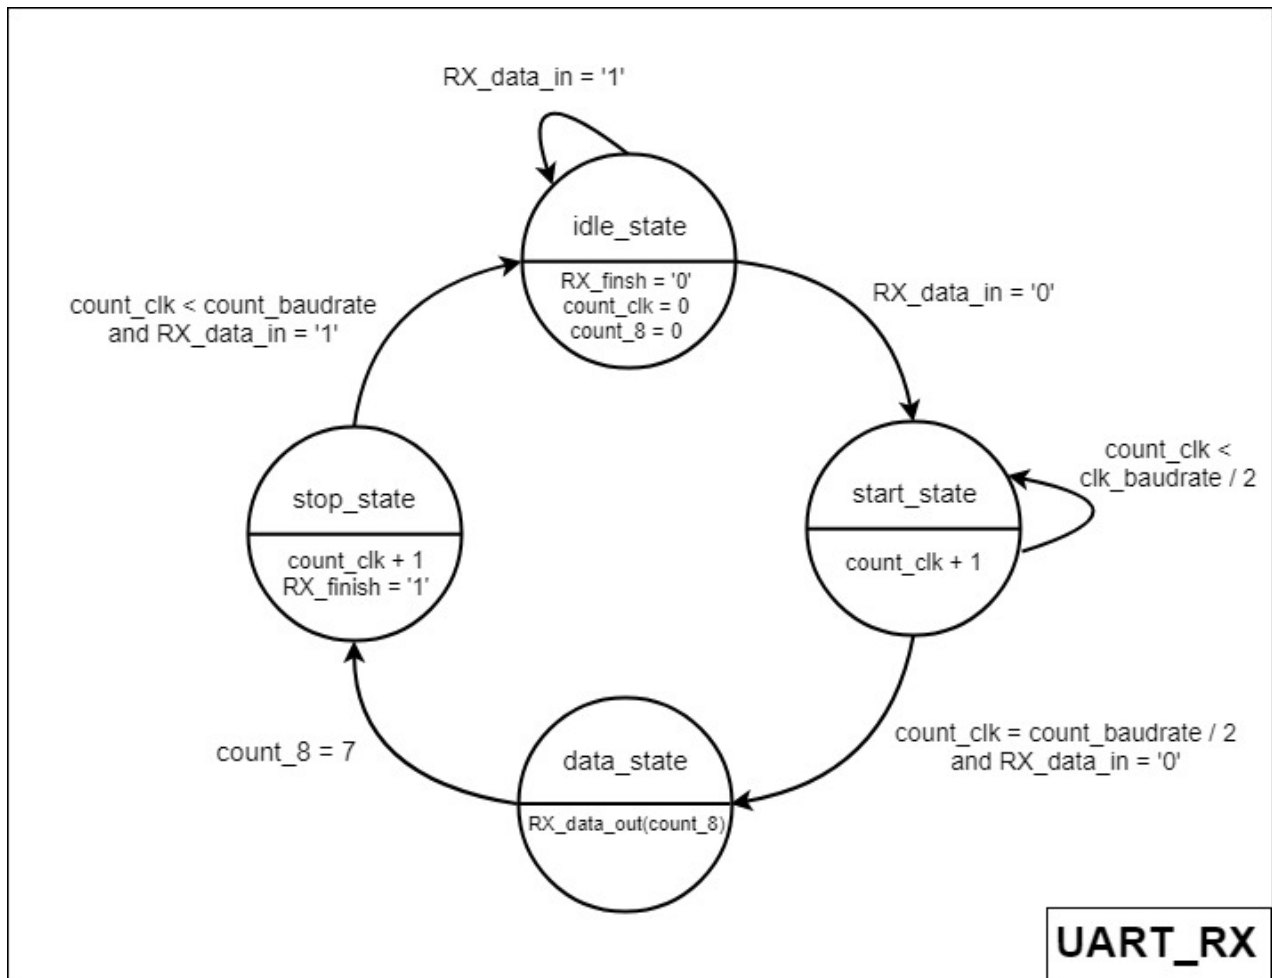

figure 4 : UART_RX FSM diagram
2.2.2 Receiver (UART_RX) : As can be seen in the diagram in figure 4, the FSM starts in **idle_state** until a start bit (low level) is detected on the RX line. Then the machine passes to **start_state** where it check if the low level detected before was a real start bit or a glitch measuring its length. Next, if the length matches with the chosen baud rate the FSM move to **data_state** where all data is captured (synchronization in middle of the bit in order to make sure to read the right value). This is repeated 8 times and data is written in RX_data_out . At last, the machine verifies if stop bit is received correctly in **stop_state** and set RX_finish to high to indicate that reception is done (RX_data_out can be read now). To finish, the FSM goes back to **idle_state** where all values are reset.